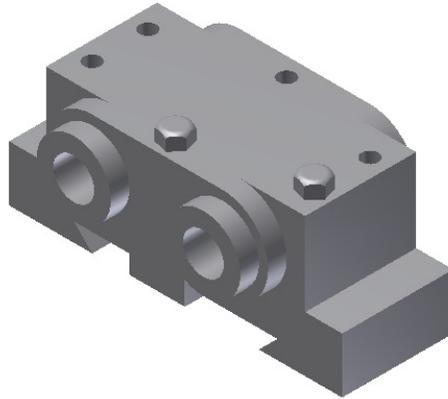

Figure 10-37 Assembly after two instances of Bolts are assembled with the Base and the Cap
3. Place two instances of the Bushing and then assemble them using the **Constrain** tool, refer to Figure 10-37.
4. Similarly, place two instances of the Bolt and then assemble them using the **Constrain** tool, as shown in Figure 10-37. You also need to make sure that you place the bolts in the parent holes in the cap part of the model. To check the parent or the primary holes of the cap, check the part file.